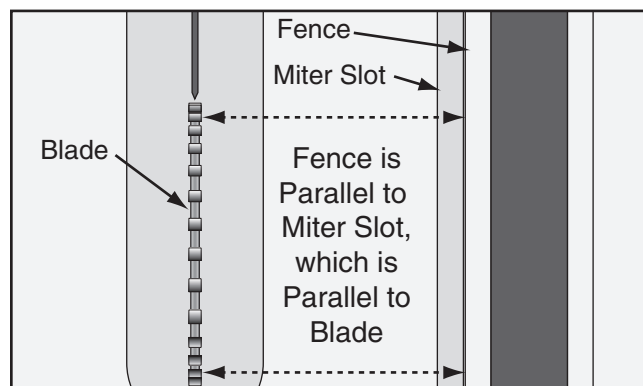

Figure 117. Checking fence parallelism with blade.
2. Slide the fence up against the right hand edge of the miter slot, lock it in place, then raise the blade to its maximum height. Examine how the fence lines up with the miter slot and the blade, as shown in **Figure 117**.
- If the fence/miter slot are parallel with the blade, as shown in **Figure 117**, no further adjustments need to be made.